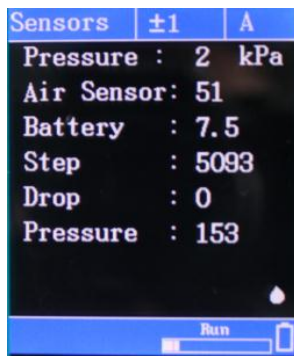

Fig 30
- 1) After the pump is connected to the AC power, the LCD will display an AC power symbol, and it begins to be charged automatically. Press the  key and the  key together at this time, the LCD will display the battery capacity as shown in Fig 30. When the battery is fully charged, the battery capacity is 8.2, and the battery will stop being charged automatically. When the battery capacity is below 8.2, the battery will begin to be charged automatically.